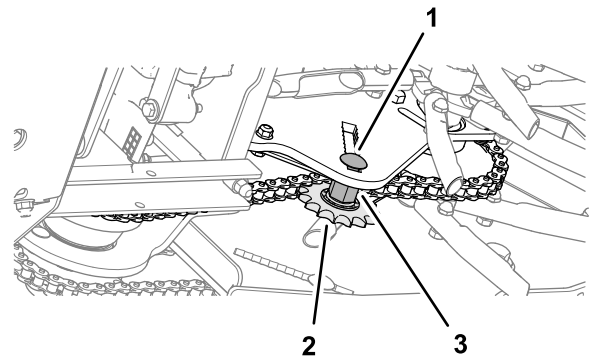

Figure 58
4. To adjust the chain tension, loosen the idler bolt and threaded spacer, and push up on the sprocket to tighten the chain (Figure 58).